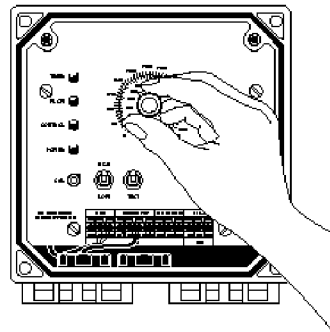

Fig. 8, Trip Point Setting
1) Turn Trip Point Knob to position pointer on scale to desired trip point (See Fig. 8).